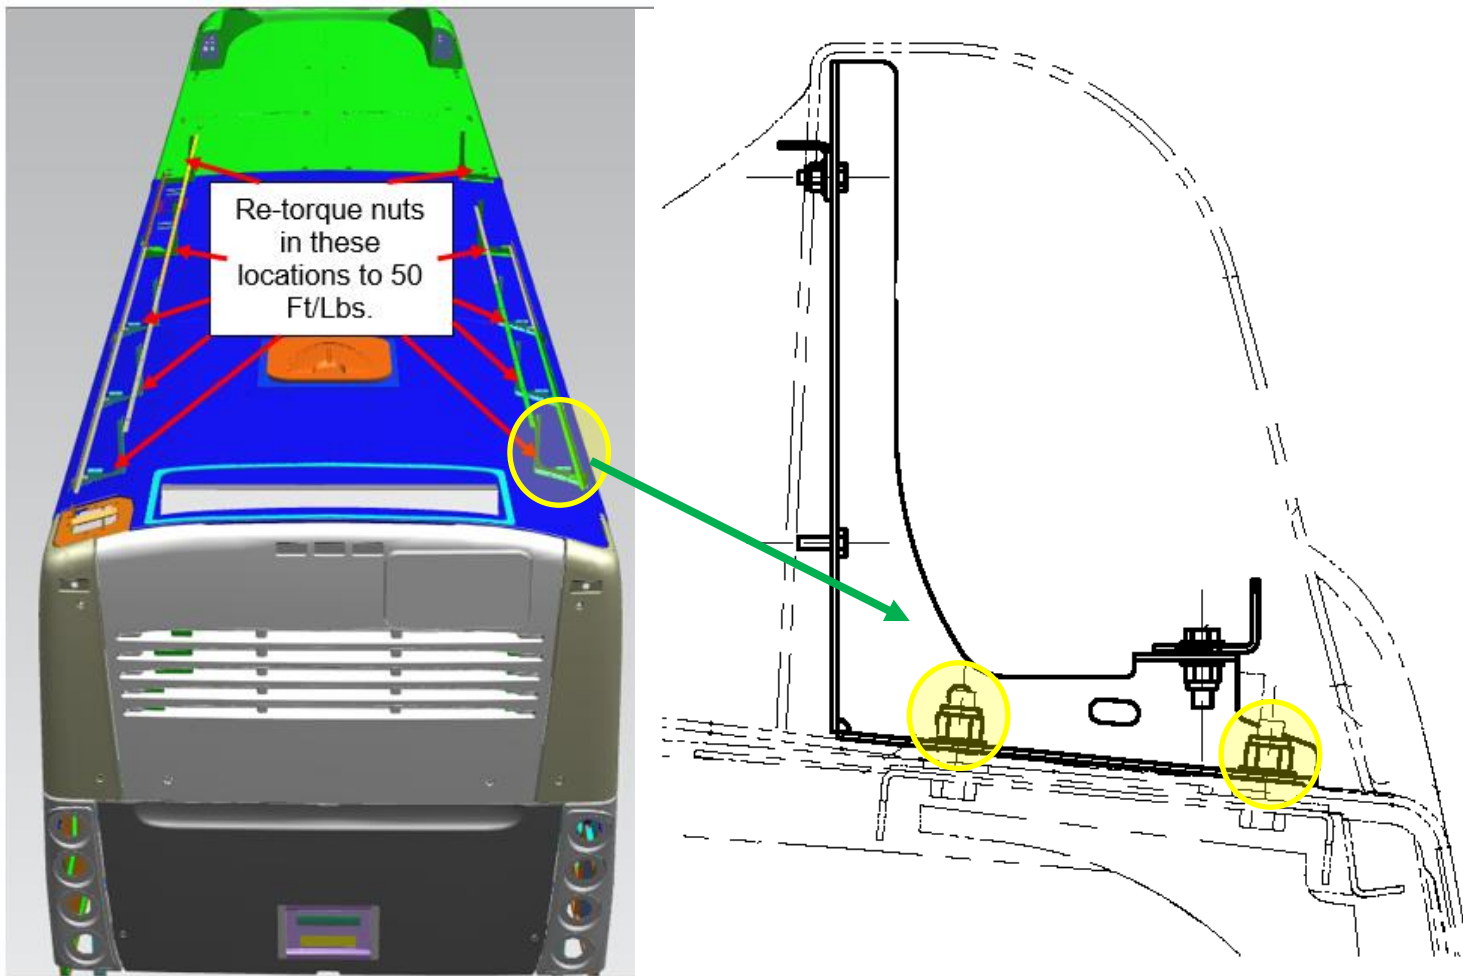

Figure 1: Locations of hardware that requires re-torque
2. On the roof of the bus, re-torque the nuts that fasten the side screen brackets to the roof of the bus to 50 Ft/Lbs using a properly calibrated torque wrench. There are ten locations with two nuts each. Please see Figure 1 for locations.